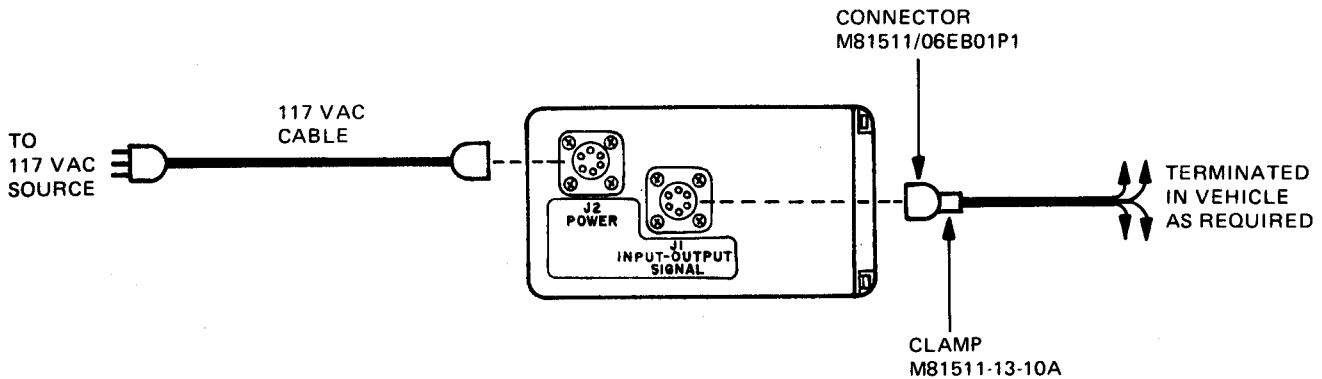

Figure 2-3. Vehicle Configuration
- (j) Connect cables as shown in figure 2-3.